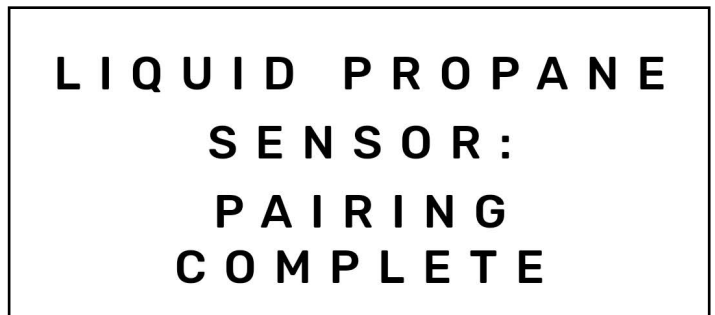

Fig.7
4. Pairing is now complete (Fig.7). Press "continue to app" to set alerts.